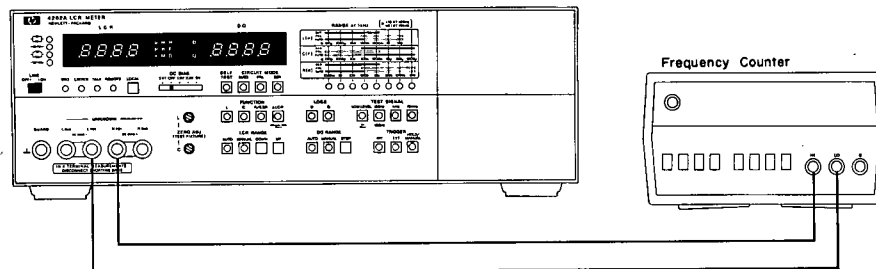

Figure 4-1. Measurement Frequency Test Setup.
1. Connect frequency counter to the 4262A UNKNOWN terminals as shown in Figure 4-1.